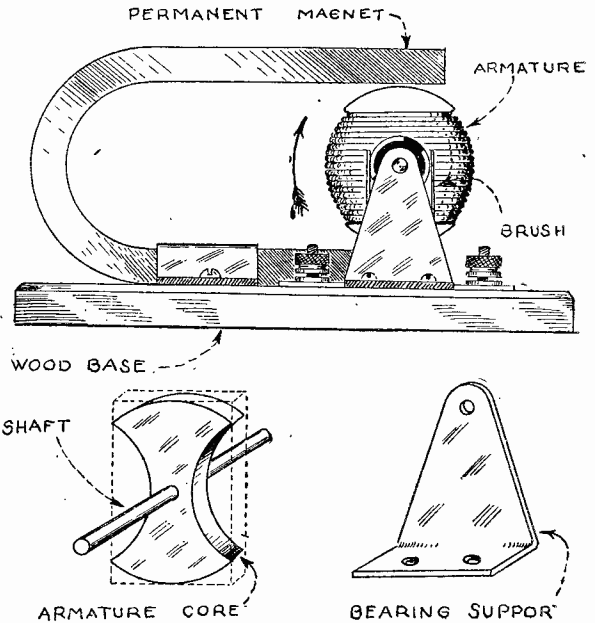

FIG. 2
- Cut a piece of wood or hard rubber big enough to cover the top of the jar leaving about a half-inch all around extending beyond the jar. On the cover is mounted the lead plate and glass tube as shown in Fig. 2. Put a hole in the center for ventilation. In sealing the platinum wire into the end
The interrupter is now ready for use. Connect in series with 110 volts and an induction coil, Fig. 2. Be sure to screw down the vibrator of the coil before starting because the current passed through the coil is
FIG. 2 The Wehnelt apparatus set up and ready for use. It is a very interesting apparatus and the experiment is quite instructive. Formation of gas bubbles effects the make and break.
On the left are shown various parts of an electric motor, and the construction of the two-part commutator is further explained in the figure directly above. The shaft of the motor passes through the two spacing disks. On the right a general elevation of the motor is given and the peculiarly shaped armature core is shown in Fig. 2, with one of the bearing supports.
The next part to make is the armature core. This is made of a piece of soft iron a half an inch thick and is filed into the shape shown in Fig. 2. A three-sixteenth-inch hole is drilled in the center for the shaft. The shaft is about four and a half inches long. The armature core is soldered
in place at the center of the shaft. Two bearing supports are made of strap iron in the shape shown in Fig. 2. These are just the right height to support the armature midway between the poles of the magnet. Paper shims can be used under the supports if necessary to make them the right height.